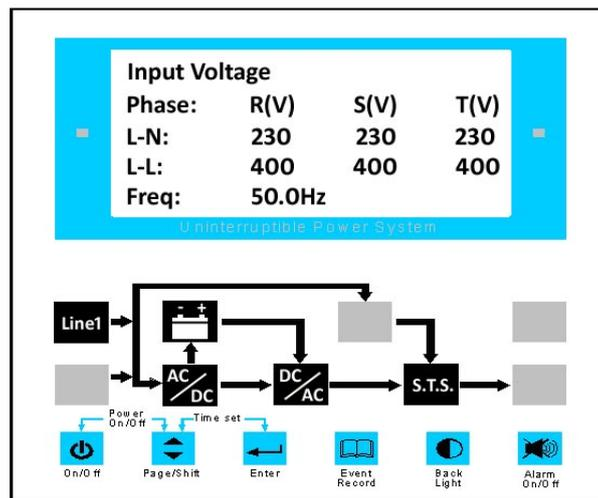

Figure 15 : LCD and Indicators - 3
8. Press 「 8. On/Off 」 and 「 9. Page/Shift 」 buttons (see Figure 3) together and release after you hear a beep to turn ON the UPS. The indicators will light and LCD will show as Figure 15.